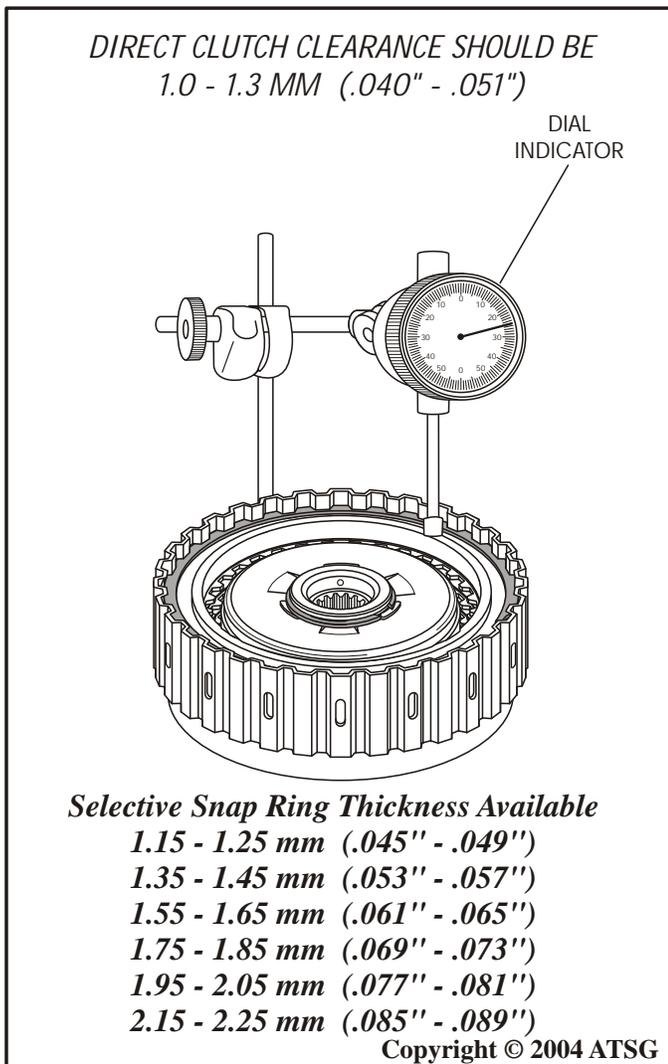

Figure 79
13. Install dial indicator, as shown in Figure 79, with the plunger resting on backing plate, and zero the dial indicator.
15. The direct clutch pack clearance should be, 1.0 to 1.3 mm (.040" to .051"), as shown in Figure 79.